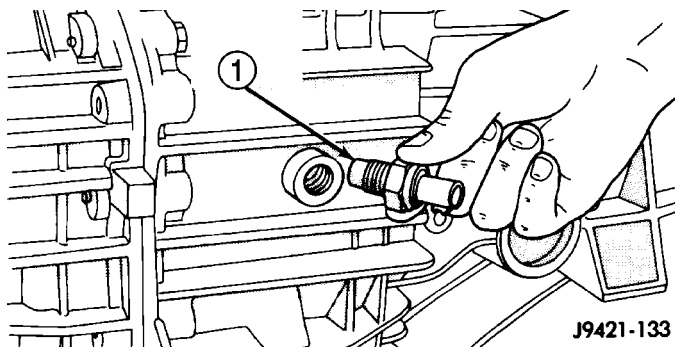

Fig. 4 BACKUP LIGHT SWITCH
- (1) Shift transmission into Neutral.
- (2) Remove drain plug and drain lubricant.
- (3) Inspect drain plug magnet for debris.
- (4) Remove backup light switch located on passenger side of rear housing (Fig. 4).